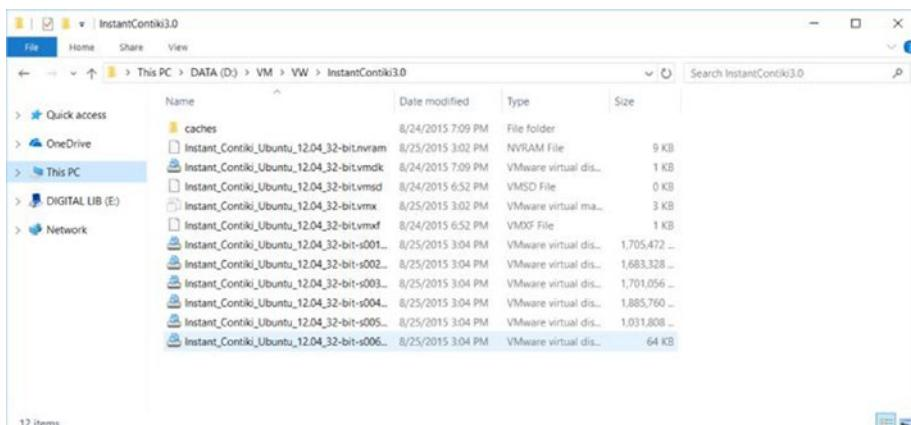

Figure 1-11. Extracted instant Contiki files
- After downloading Instant Contiki, you can extract it to a specific folder. You should see some files as shown in Figure 1-11.